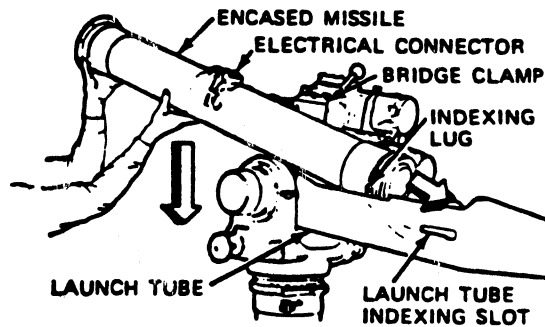

Fig 4-21. Installing the encased missile.
Step 7. Turn the encased missile so that the electrical connector is on the top, slide the indexing lugs on the encased missile into the indexing slots on the launch tube, and slide the encased missile forward and down into the launch tube until the indexing lugs are firmly in place (fig 4-21).